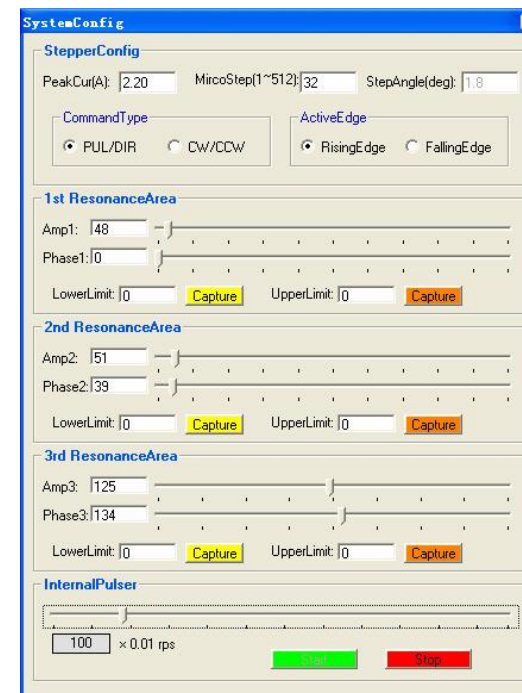

Figure 26: Anti-resonance tuning
Step 1: Start the motion test by clicking **Start/Stop** button. Find the **Lower Limit** values and **Upper Limit** values for each resonance area by slightly moving the slider bar of internal pulse generator back and forth, and capture these values for anti-resonance algorithm by clicking **Capture** buttons. See Figure 26.